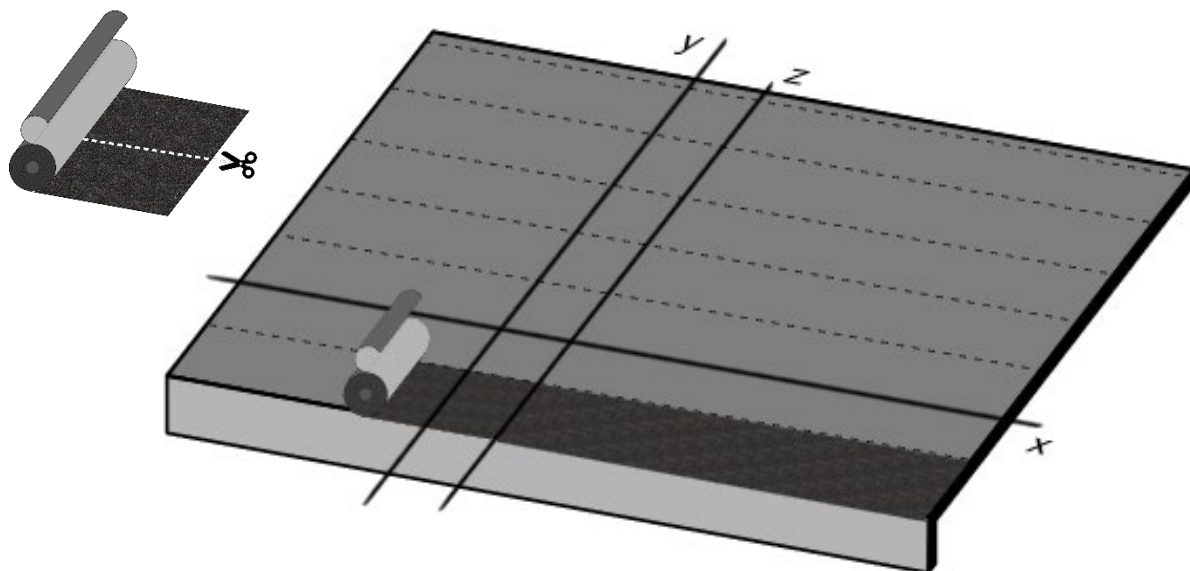

Fig. 20 - Installation of the starting row
- Lay the starting row on top of the already installed bituminous membrane, aligning the upper edge with the horizontal line marked 16 cm from the eaves line - Fig. 20.